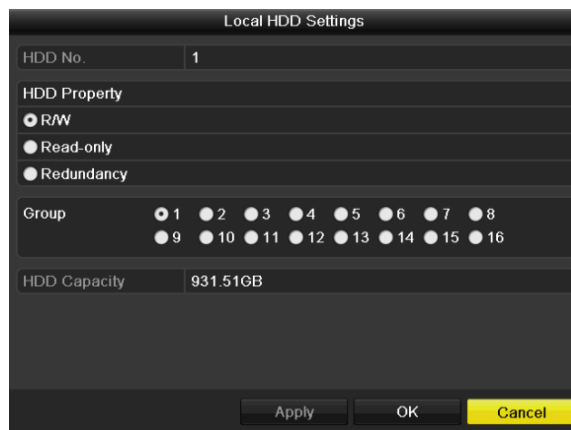

Figure 14-15 Set HDD Property
Step 2 Select HDD from the list and click the  icon to enter the **Local HDD Settings** interface, as shown in Figure 14-15.